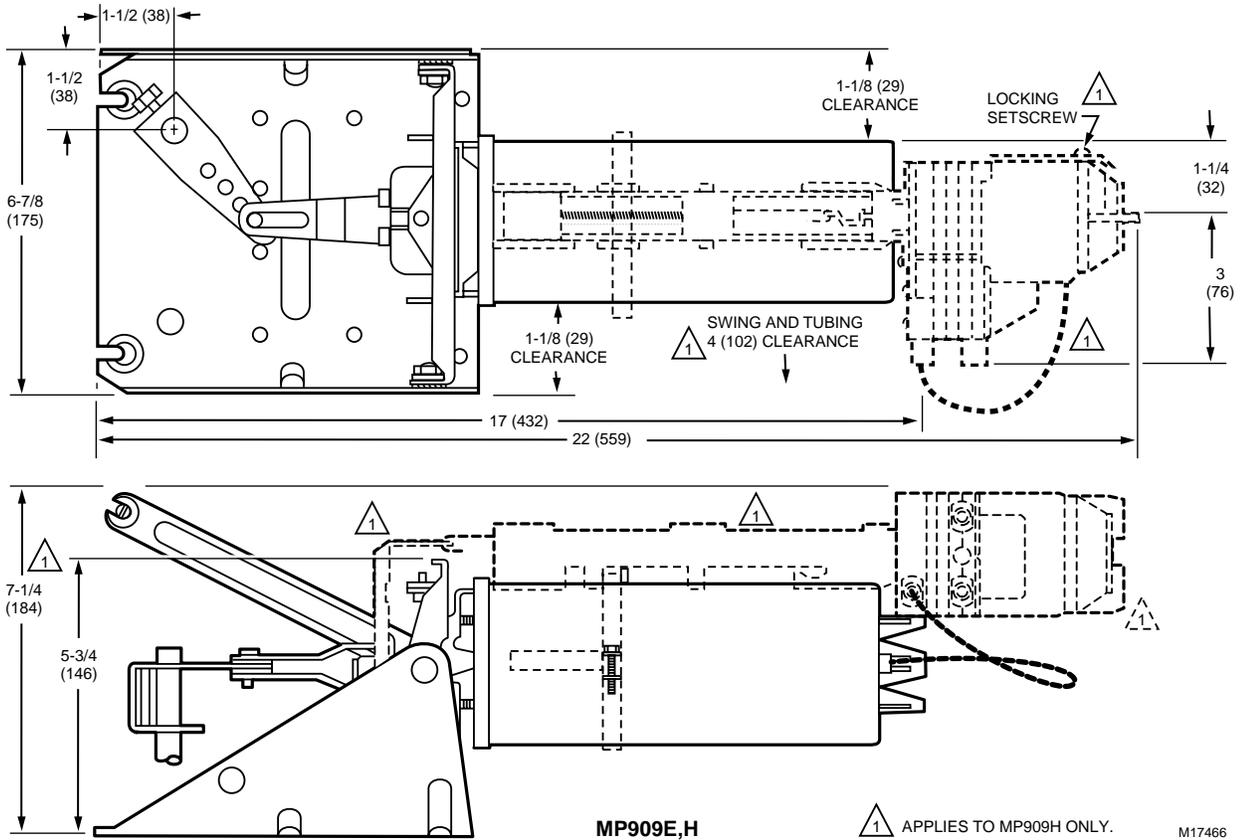

Fig. 7. External Mounting Dimensions in in. (mm) with Trunnion Bracket.
1. See Fig. 7 for mounting dimensions.